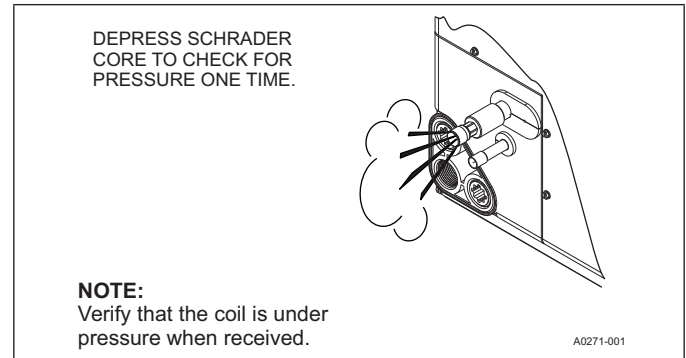

**FIGURE 1:** Return Air Duct Attachment & Component Location
*DO NOT lift air handler by the cabinet braces. The cabinet braces are held in place by the coil channels. The cabinet braces could become disengaged from the cabinet causing the air handler to fall, potentially causing injury or damaging property. See Figure 1 for location of cabinet braces. Lift the air handler by tightly gripping the casing.*